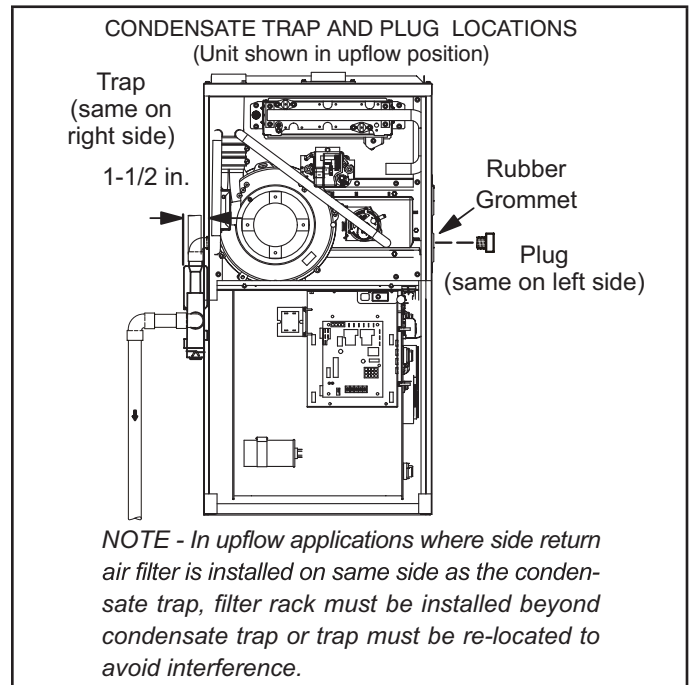
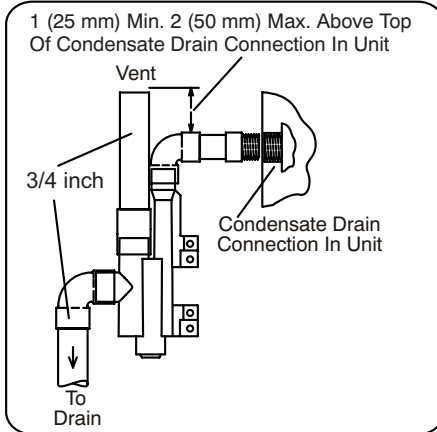

FIGURE 43
FIGURE 52
This unit is designed for either right- or left-side exit of condensate piping in upflow applications. In horizontal applications, the condensate trap must extend below the unit. An 8" service clearance is required for the condensate trap. Refer to FIGURE 43 for condensate trap locations. FIGURE 51 (3/4" drain connection) and FIGURE 52 (1/2" drain connection) shows trap assembly using 1/2" PVC or 3/4" PVC.
- 2 - For furnaces with a 1/2" drain connection use a 3/8 allen wrench and remove plug (figure 43) from the cold end header box at the appropriate location on the side of the unit. Install field-provided 1/2 NPT male fitting into cold end header box. For furnaces with a 3/4" drain connection use a large flat head screw driver or a 1/2" drive socket extension and remove plug. Install provided 3/4 NPT street elbow fitting into cold end header box. Use Teflon tape or appropriate pipe dope.
- 3 - Install the cap over the clean out opening at the base of the trap. Secure with clamp. See FIGURE 51 or FIGURE 52.
- 4 - Install drain trap using appropriate PVC fittings, glue all joints. Glue the provided drain trap as shown in FIGURE 51 or FIGURE 52. Route the condensate line to an open drain. Condensate line must maintain a 1/4" downward slope from the furnace to the drain.